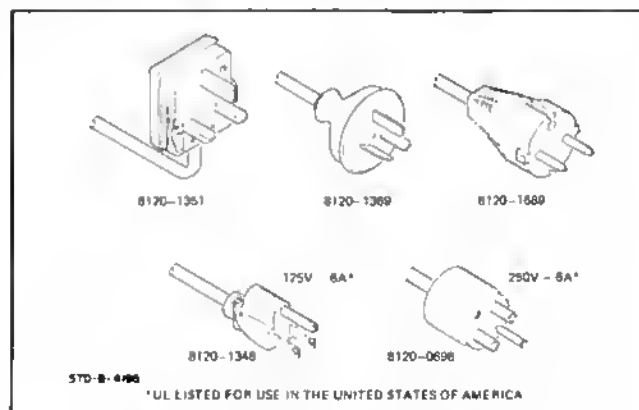

Figure 2-2. Power Cord Configurations.
2.11. Figure 2-2 illustrates the standard configurations